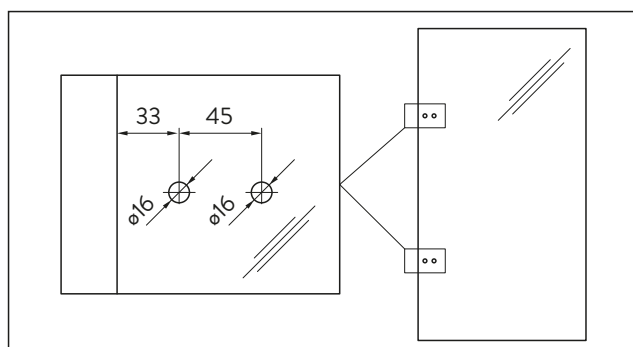

Abb. 16 Glass preparation
- Check the dimensions of the glass door panel and the glass preparation details, see Fig. 16.